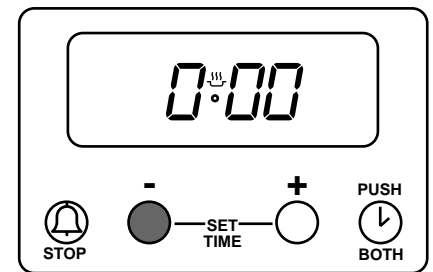

Fig. 6.6
To set, press button (1) and the display will read  $0^{\text{u}}:00$ , see Fig. 6.6.